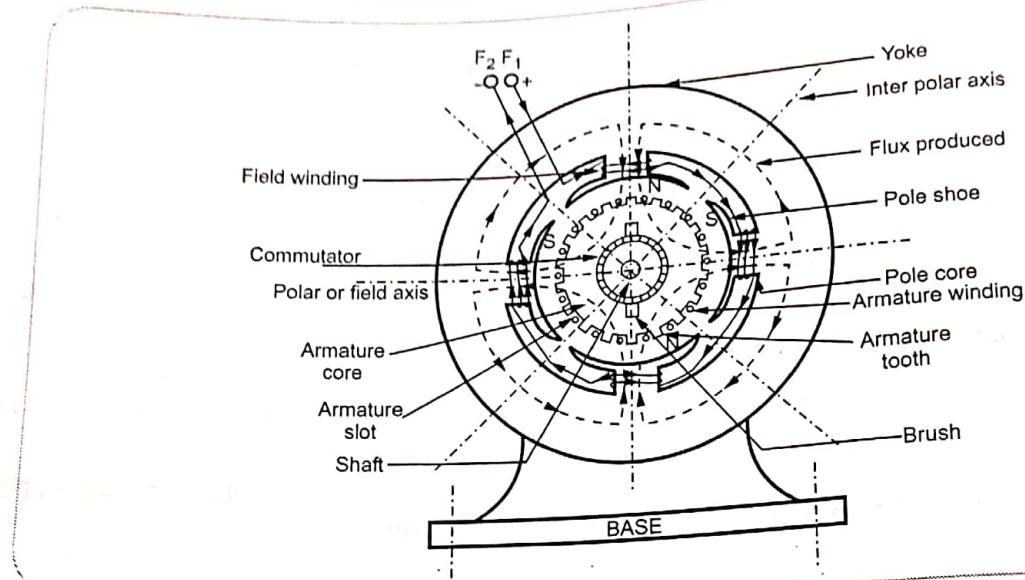

Fig. Q.29.1 A cross-section of typical d.c. machine
**Ans. :** • The construction of a d.c. machine is shown in the Fig. Q.29.1.